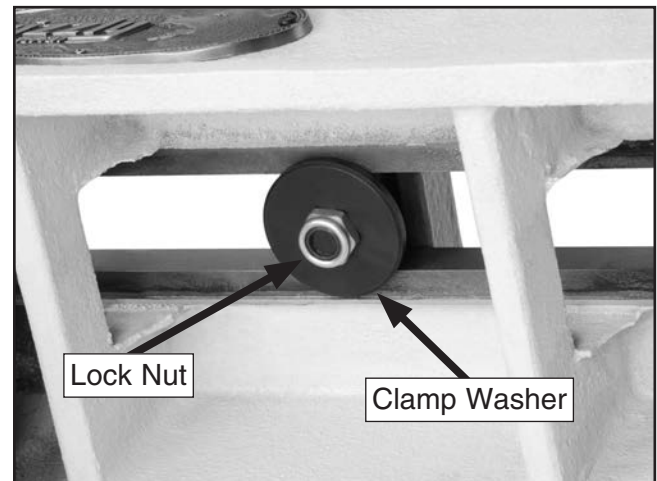

Figure 33. Lock nut and clamp washer location (viewed from beneath).
4. Loosen and remove the lock nut and clamp washer from beneath the tool rest base (**Figure 33**).